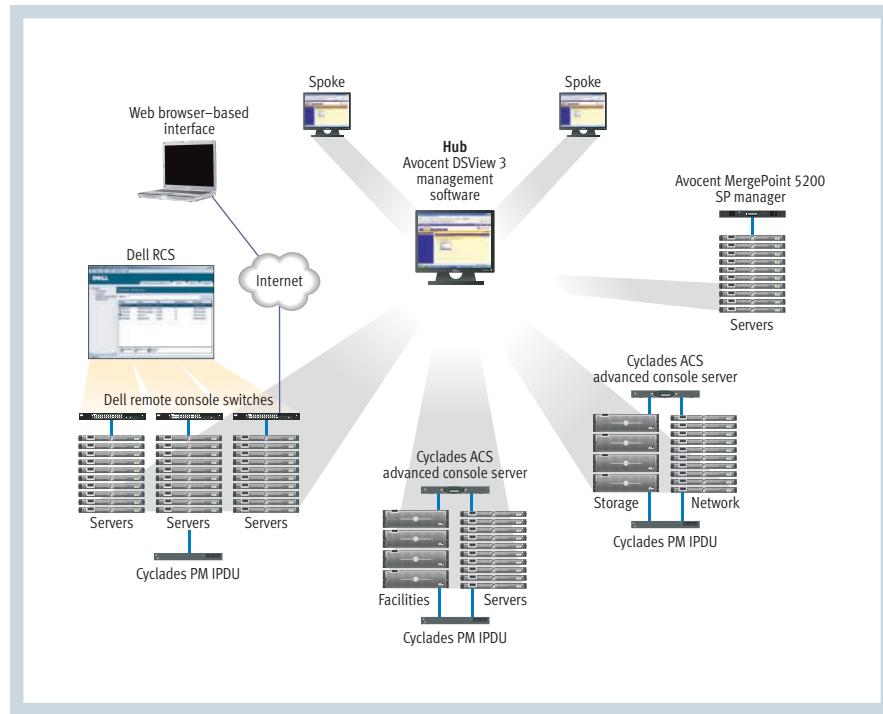

Figure 1. Example environment incorporating Dell remote console switches, Avocent KVM over IP technology, and Avocent DSView 3 software
Figure 1 shows the basic elements of a data center environment incorporating Dell remote console switches, Cyclades® ACS advanced console servers from Avocent, Cyclades PM intelligent power distribution units (IPDUs) from Avocent, and an Avocent MergePoint™ 5200 service processor (SP) manager. In addition, this figure shows the three tools through which administrators can access such an environment: Dell Remote Console Software (RCS), the remote console switch Web browser-based interface, and Avocent DSView 3.